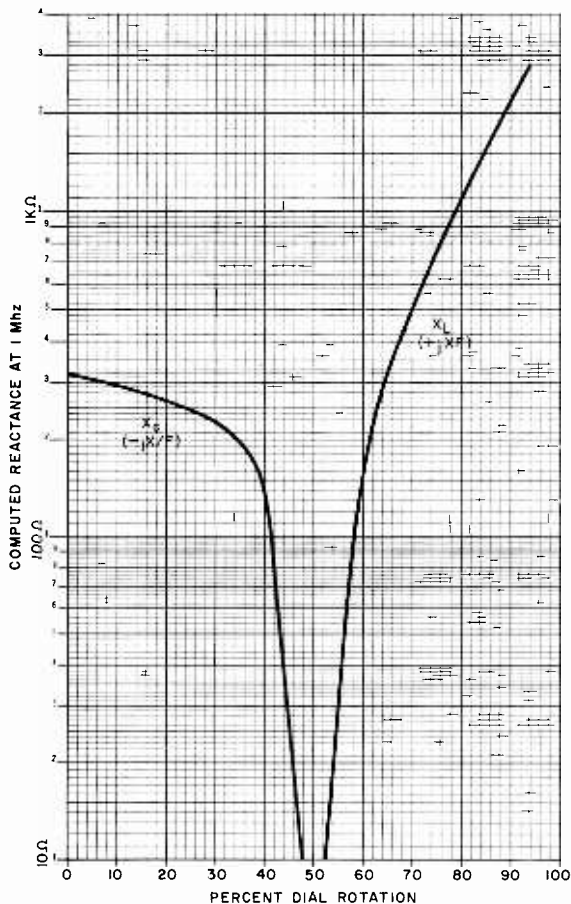

Fig. 6. Calibration curve for the X (reactance) scale of $C2$'s control knob.
No direct calibration was performed on the x (reactance) dial. Rather, the following procedure was followed. Using a Southwest Technical Products digital capacitance meter cross-checked against a General Radio GR-650 bridge, the author made a plot of the capacitance of $C2$ against dial rotation. Then the standard inductive and capacitive reactance formulas were employed to derive a plot of reactance below and above a resonant frequency of 1 MHz. Assuming that $L2$ is adjusted to cancel out bridge reactance (including that of $C2$ when its plates are half meshed), the graph shown in Fig. 6 plots the net reactive variation of X_C and X_L below and above the resonance at 1 MHz.
-j250 ohms or 250 ohms capacitive. As was done with the R control knob, a Bakelite knob with a large skirt can be used and the skirt inscribed with an electric engraving tool. Alternatively, a knob with a silver skirt calibrated from 0 to 100 over 180 degrees of dial rotation can be used in conjunction with the graph of Fig. 6 to determine the sign and magnitude of the reactive component.
The accuracy of the x control knob's calibration depends on that of the graph of Fig. 6 and the degree of bridge balance (null sharpness) obtainable. The theoretical curve is apparently very accurate. How much a direct calibration would depart from the curve would depend on stray bridge reactance. The prototype yielded good, sharp nulls and its x calibration was very accurate.